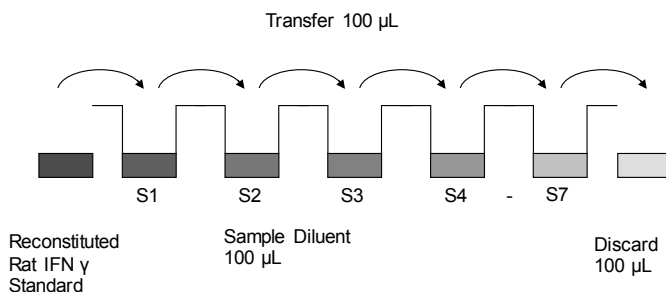

Fig. 7 Dilute standards - microwell plate
- Standard dilution on the microwell plate (Alternatively the standard dilution can be prepared in tubes - see “External standard dilution” on page 3): Add 100 µL of Sample Diluent in duplicate to all standard wells. Pipette 100 µL of prepared standard (see “Rat IFN  $\gamma$  standard” on page 3, concentration = 4000.0 pg/mL) in duplicate into well A1 and A2 (see Table 1). Mix the contents of wells A1 and A2 by repeated aspiration and ejection (concentration of standard 1, S1 = 2000.0 pg/mL), and transfer 100 µL to wells B1 and B2, respectively (see Figure 7). Take care not to scratch the inner surface of the microwells. Continue this procedure 5 times, creating two rows of rat IFN  $\gamma$  standard dilutions ranging from 2000.0 to 31.3 pg/mL. Discard 100 µL of the contents from the last microwells (G1, G2) used.